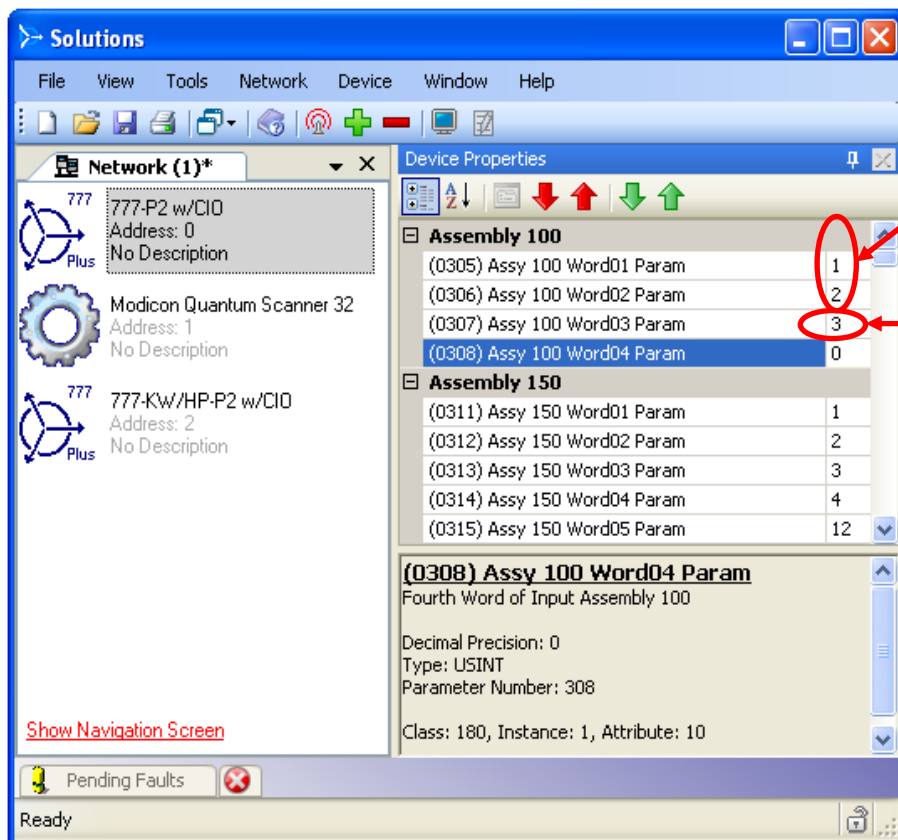

Figure 8 - Faulted Unit Recovery
Step 6. The first time a DeviceNet network is commissioned all nodes will be at the same address and appear to a configuration tool as faulted devices. When a device is faulted, *Solutions* will show the dialog in Figure 8.